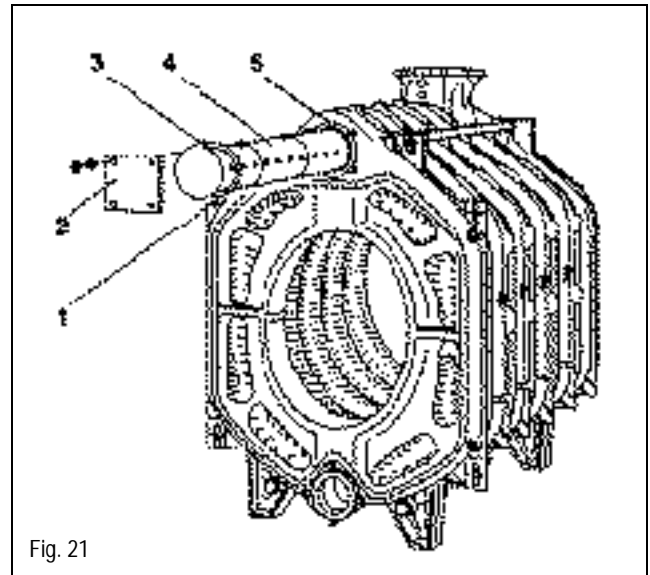

Fig. 21
- Slide gasket (1) over return header pipe (4) assembly (Fig. 21).
- Slide header pipe into top front connection (Fig. 21). (G615/9-11 requires 2 pieces, G615/12-16 3 pieces). Secure pieces to each other during insertion.